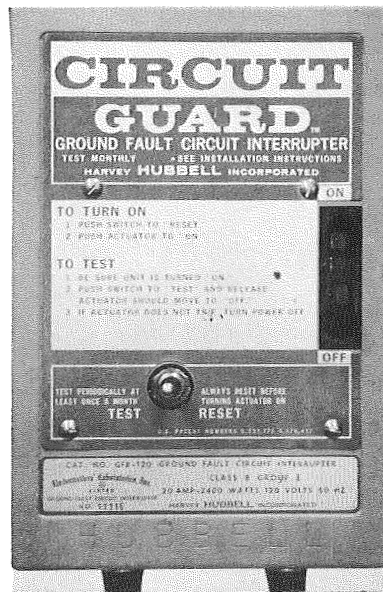

FIGURE 28. GROUND FAULT CIRCUIT INTERRUPTER
4.29 Ground Fault Circuit Interrupter (See Figure 28)